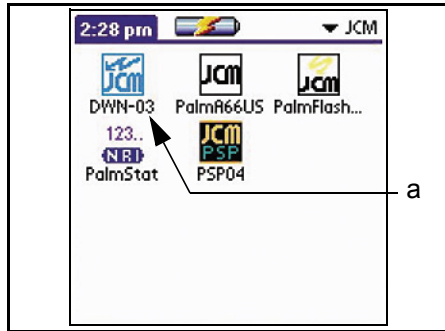

Figure 21 Palm Aps Main Menu
3. Click on the DWN-03 program Icon (See Figure 21 a).